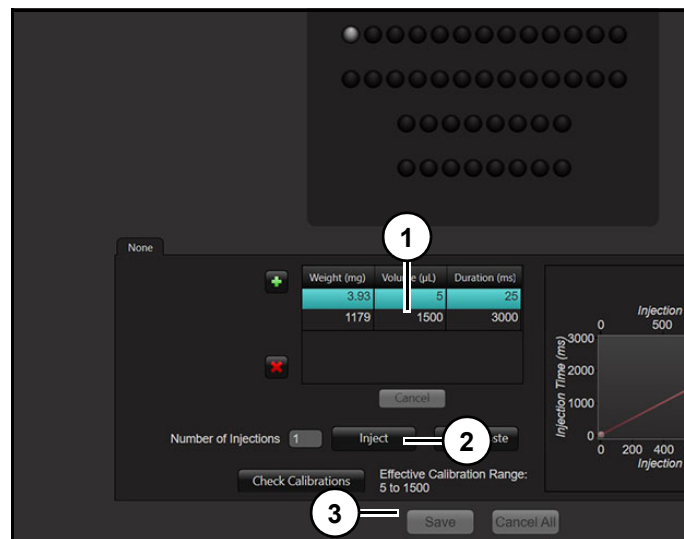

Figure 15
6. Click "Inject" (2) (Figure 15). Instrument will open valve for 3000ms, injecting liquid into collection vile.
- Click "Save" (3) (Figure 15). To calibrate another point, highlight appropriate line with a mouse click.